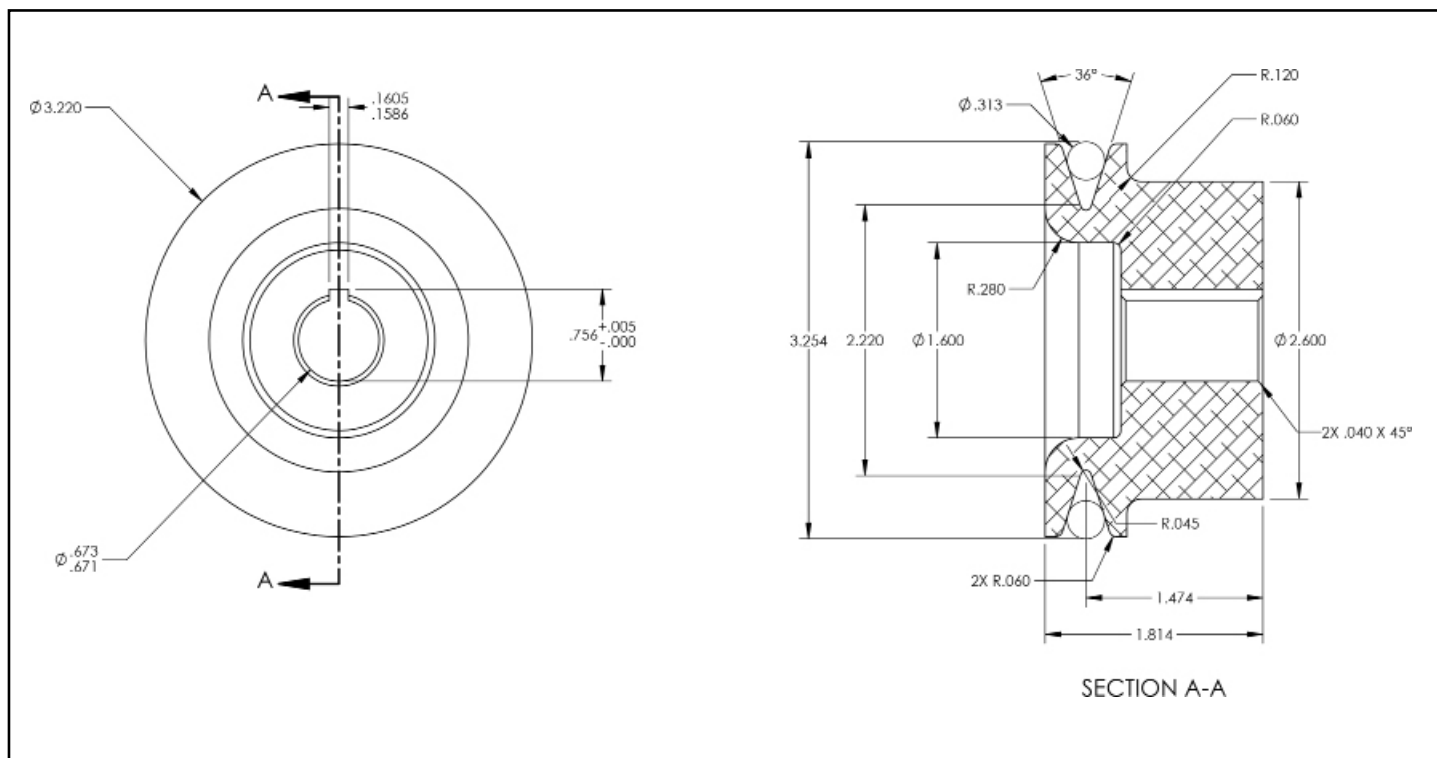
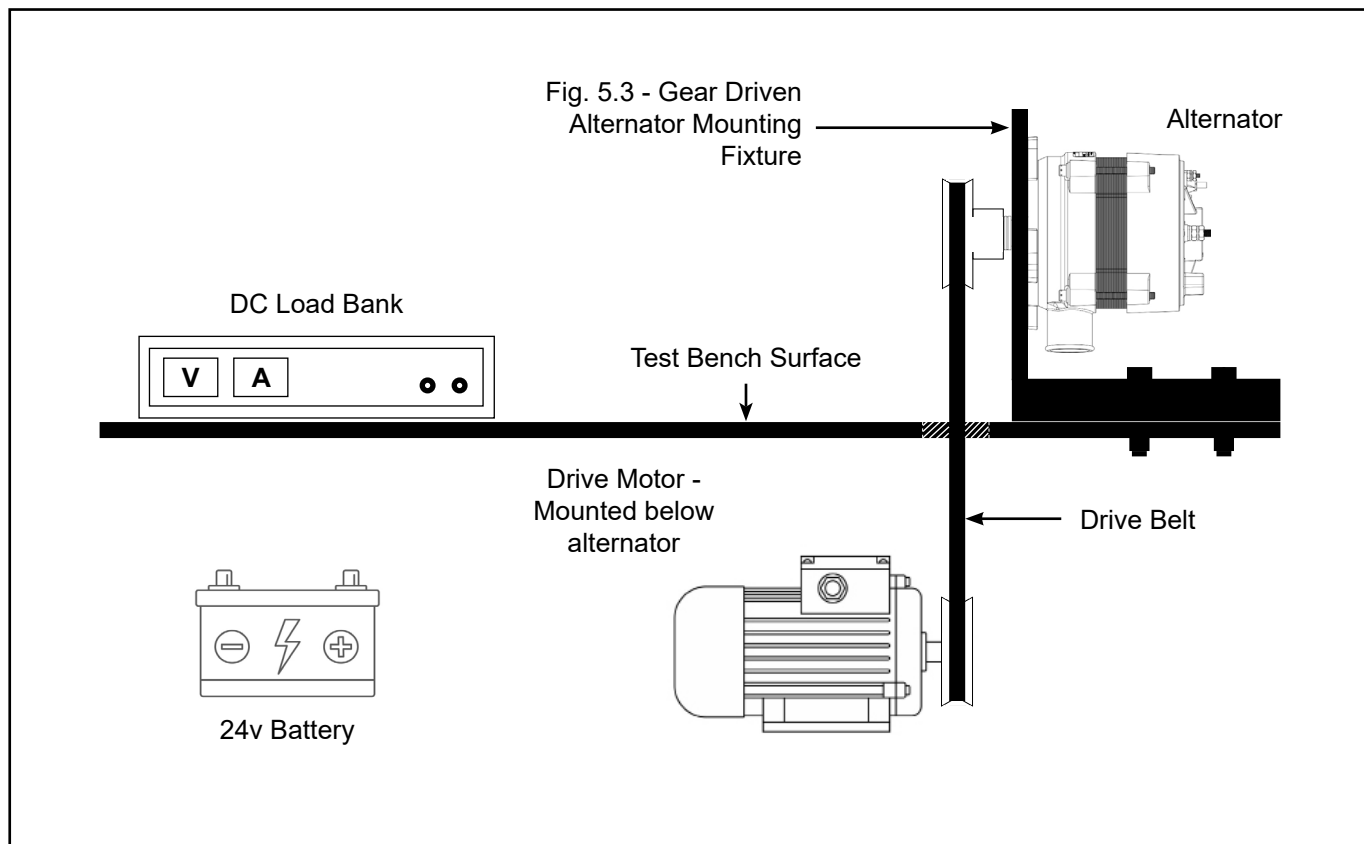

Figure 5.1 - Test Pulley Fabrication Dimensions
Figure 5.2 - Typical Test Bench Setup
- (1) For gear driven alternators, install a fabricated test pulley (Fig. 5.1), washer, and nut onto the alternator shaft. All ES-10024B and ES-14024B models shall be tested with the original manufacturer installed pulley.
- (2) If testing a gear driven alternator, torque nut to 30 ft-lbs max to secure the fabricated test pulley.
- (3) Mount the alternator to a test bench that is capable of turning the rotor shaft 10,000 RPM in combination with drive pulley and alternator pulley. See Fig. 5.2 for typical test bench setup.
- (4) Apply 50-80 lbs. of tension to drive belt and check for belt slippage. If the belt slips, increase tension in 10 pound increments, not to exceed 120 lbs. Check drive belt tension with a belt tension gauge. Do not exceed maximum belt tension in Table 6.2 for belt driven alternators.